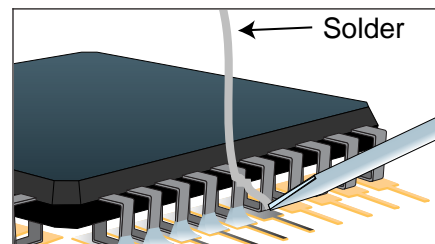

Figure 4 Solder Leads
7. Position chisel tip at intersection of lead and land. Apply solder to side of lead/land area to form proper solder fillet. (See Figure 4.)